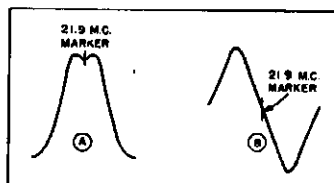

Fig. 8. T-V Audio I-F Curves
8. HIGH VOLTAGE SUPPLY (See Figure 8)—The high voltage is derived by making use of the inductive "kick" voltage produced during retrace in the horizontal output transformer.